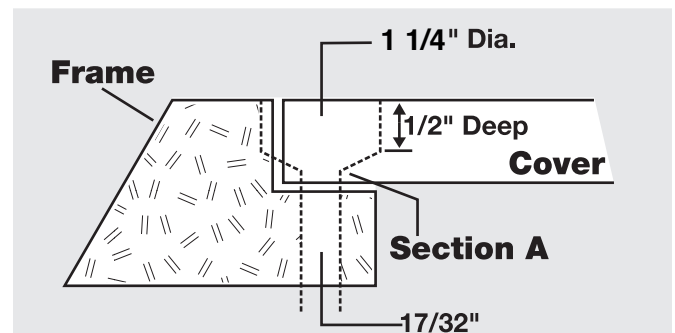

Figure 3
STEP 3: Counterbore 1-1/4" diameter to 1/2" depth, NOT including taper. (See Figure 3)
When drilling the counterbore, the bit must not go completely through the cover. Bolt seating area must be on the cover and is permissible on the frame (See Section A, Figure 3).